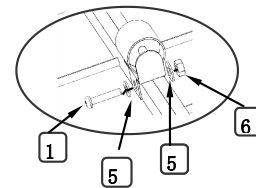

Fig 3
Assemble the Wheel (D) to the Platform (A),use Bolt #2,Washer #5,Nut #6,tool #7 & 9 ,see fig 2. Connect the Platform (A) & Platform (B) together by Wheel (E). Use Bolt #1,Washer #5,Nut #6,tool #7 & 9 ,See Fig 3.The direction of the bolts from Platform (A) to Platform (B),as shown in the above.